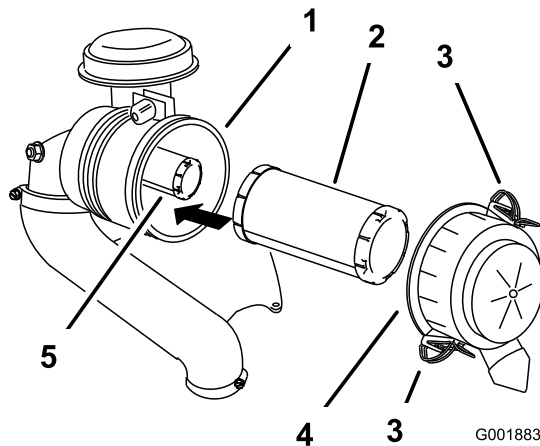

Figure 29
3. Release the latches on the air cleaner and pull the air-cleaner cover off the air-cleaner body (Figure 29).
5. Gently slide the primary filter out of the air-cleaner body (Figure 29).
2. If you are replacing the inner filter, carefully slide it into the filter body (Figure 29).
3. Carefully slide the primary filter over the safety filter (Figure 29).
4. Install the air-cleaner cover and secure the latches (Figure 29).